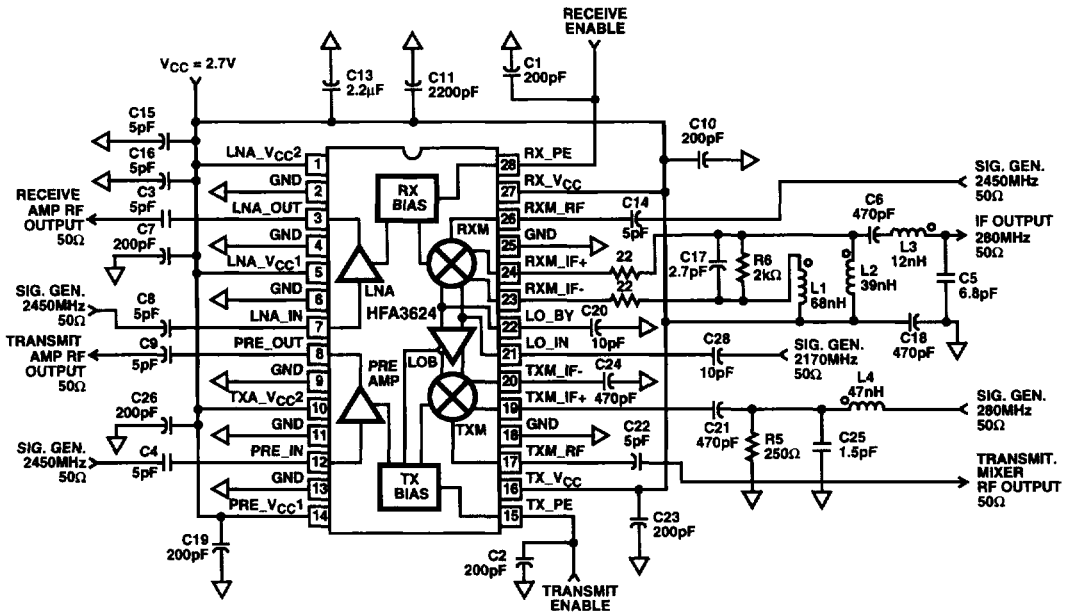

FIGURE 5. OPTIMIZED LAB EVALUATION CIRCUIT
- See Figure 5 Test Circuit for 50Ω IF matching network component values.
- Transmit mixer measured with Impedance Transform Network 250Ω at device to 50Ω at the source. Refer to Figure 5, pin 19.
- Implied limit, production measurement uses 50Ω termination at pin 19 (RSIF = 50Ω). Typical transmit conversion gain increase of 5.5dB with application circuit Figure 5 (RSIF = 250Ω).
- Enable/Disable Time Specifications are tested with the external component values shown in the Figure 5 Test Circuit, with an IF frequency of 280MHz. Specifically the AC coupling capacitors on the TXM_IF+ and TXM_IF- pins are biased up to operating voltage from a fixed internal current source at power up. Increasing these AC coupling capacitors above 1000pF will slow Enable Time proportionately.
NOTE: Transmit mixer measured with Impedance Transform Network 250 Ω at device to 50 Ω at the source. Refer to Figure 5, pin 19.
NOTE: Transmit mixer measured with Impedance Transform Network 250Ω at device to 50Ω at the source. Refer to Figure 5, pin 19.